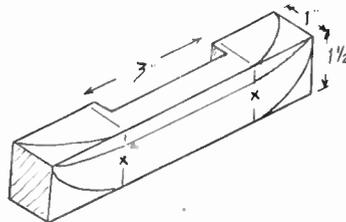

Fig. 2—Making the sides
These latter parts have their outlines, plan and side ones pencilled on, and remember they must be 'paired', as it were, and if marked left and right, no mistake should occur. On the inner face sides of each, saw out a groove, 3 ins. long and 1/4 in. deep, as in sketch, Fig. 2, and leave the parts at top and bottom marked with an (X) flat during the shaping. Then cut to shape and glue to the middle piece, one each side. That portion of the middle piece, running across the opening, made by the grooves, should be sawn away, to leave a clear space, 1/2 in. wide, to house the battery in. Now shape up the vessel, which is